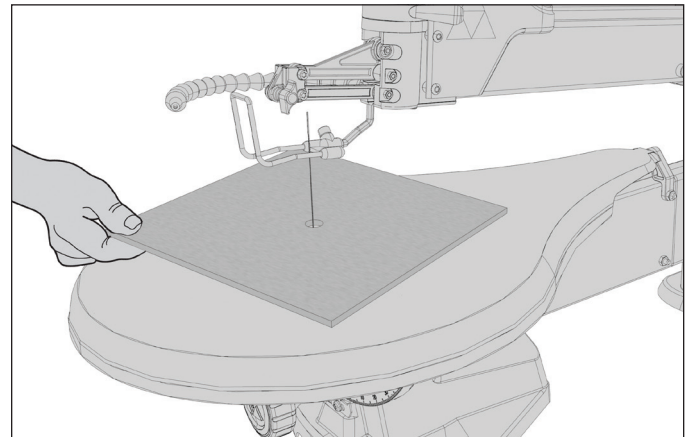

FIG. 11
4. Leaving the blade held in place by the bottom blade clamp, lift the top arm of the scroll saw, as shown in Figure 11. Thread the saw blade through the pilot hole in your workpiece and reattach the blade by tightening the top thumbscrew.